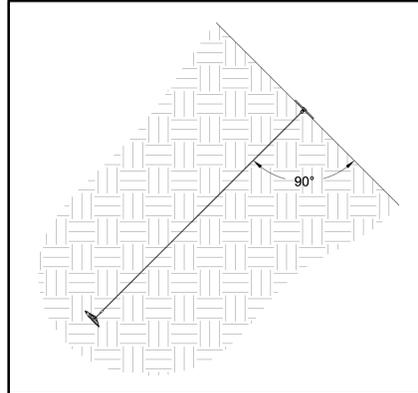

**Figure 20: Use JackJaw Setting Tool to Set Anchor**
6. Once the plate is close to the slope surface, place the JackJaw Setting Tool on the anchor plate and place the top of the anchor tendon into the grips, keeping the anchor tendon perpendicular to the slope surface (Figure 20). With gentle force, slowly start to press down on the JackJaw lever – towards the slope surface - causing the anchor tendon to start to move out of the ground (displace). During this step, the anchor head will turn in the ground – a process known as “anchor setting”. The change in embedment depth to set a Type B1 Anchor can be up to 6 inches and up to 8 inches for Type B2 depending on soil conditions. When the anchor is set, there will be a noticeable change in the amount of force needed to displace the anchor any further. This is a good indication that the anchor head is now perpendicular to the anchor tendon and the anchor is ready to be load-locked.